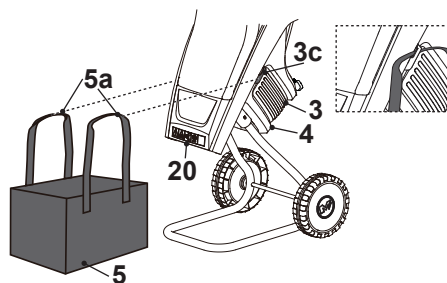

Fig. 3
1. Open the collection bag (5) fully and place it under the discharge chute (20).
2. Place the two hanging belts (5a) over the hooks (3c) on the main unit (3) (Fig. 3).